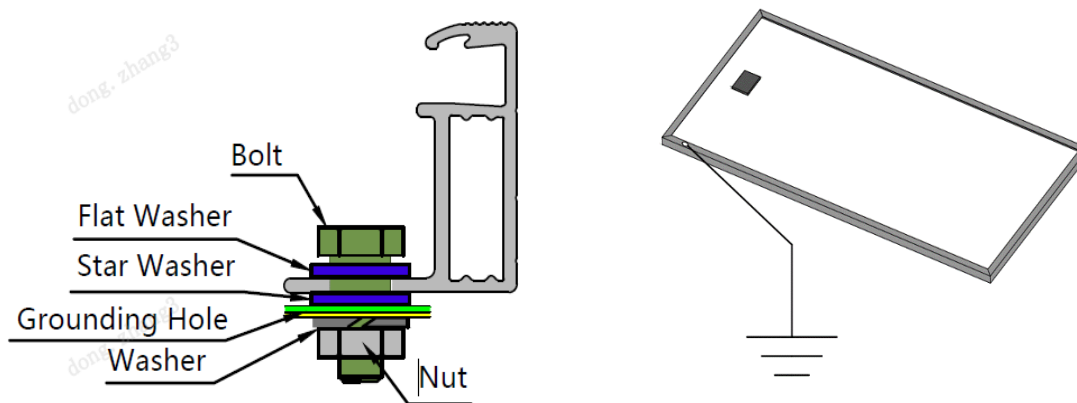

Fig. 7 Grounding of PV modules
- i) Sany recommends two types of grounding: bolted grounding, shown in Figure 7, and clamp grounding.